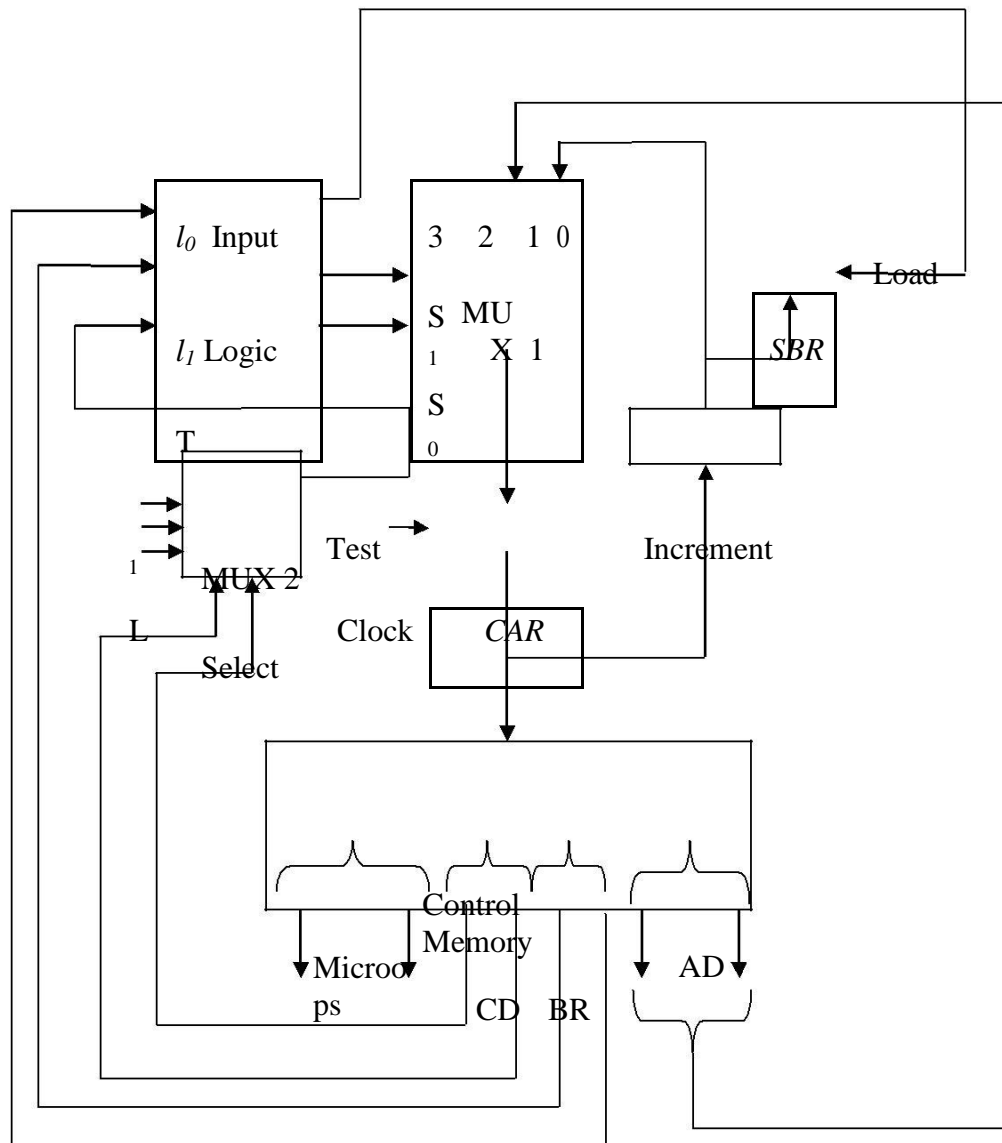

Figure 4.6: Microprogram Sequencer for a control memory
- The block diagram of the microprogram sequencer is shown in figure 4.6.
- Although the figure 4.6 shows a single subroutine register, a typical sequencer will have a register stack about four to eight levels deep. In this way, a number of subroutines can be active at the same time.